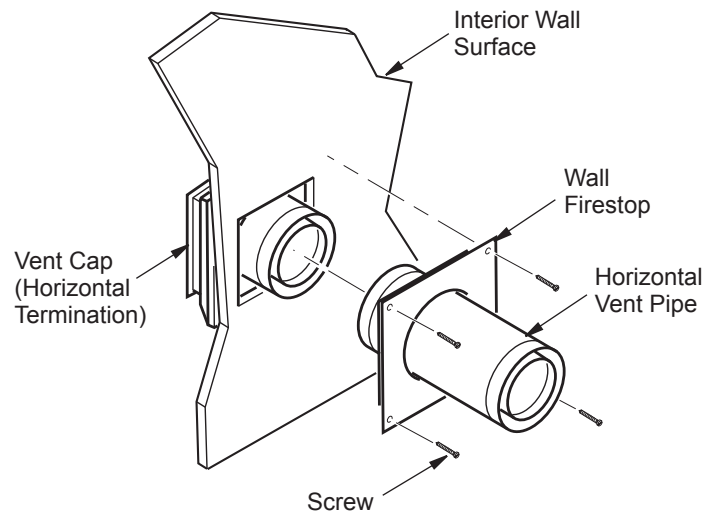
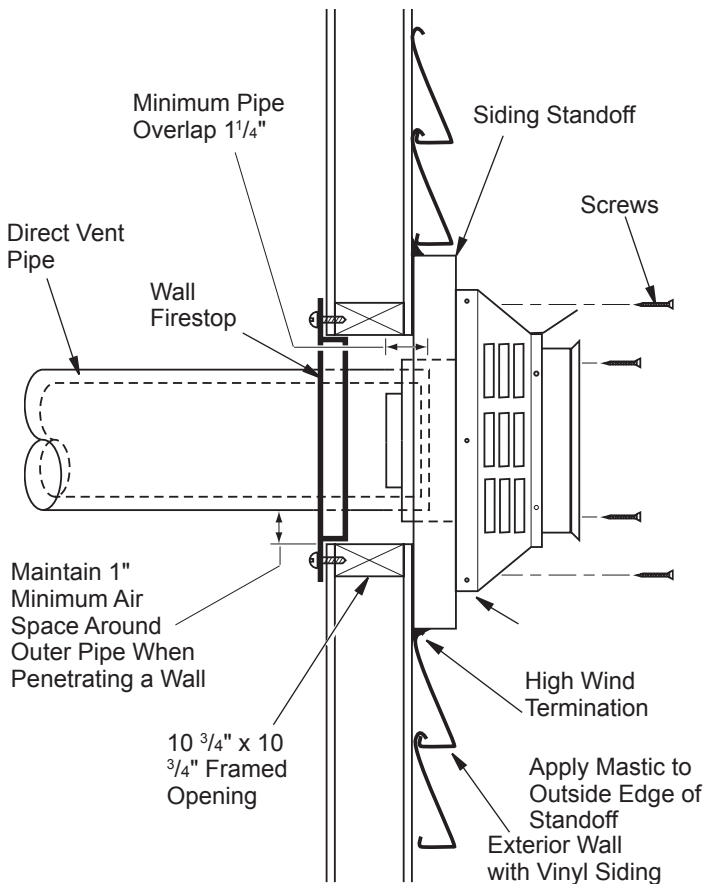

Figure 12 - Connecting Vent Cap with Horizontal Vent Pipe
Figure 13 - Typical Horizontal Termination Cap Mounting with Additional Siding Standoff Installed
- Combustible Exterior Wall Only:** Slide the wall firestop over the vent pipe before connecting horizontal run to vent cap (see Figure 12).
- Carefully move fireplace, with vent assembly attached, toward wall and insert vent pipe into horizontal termination. The pipe overlap should be a minimum of 1 1/4" (see Figure 13, page 10).
- Combustible Exterior Wall Only:** Slide wall firestop against interior wall surface and attach with screws provided (see Figure 12). See Figure 13, page 10 for horizontal termination details.